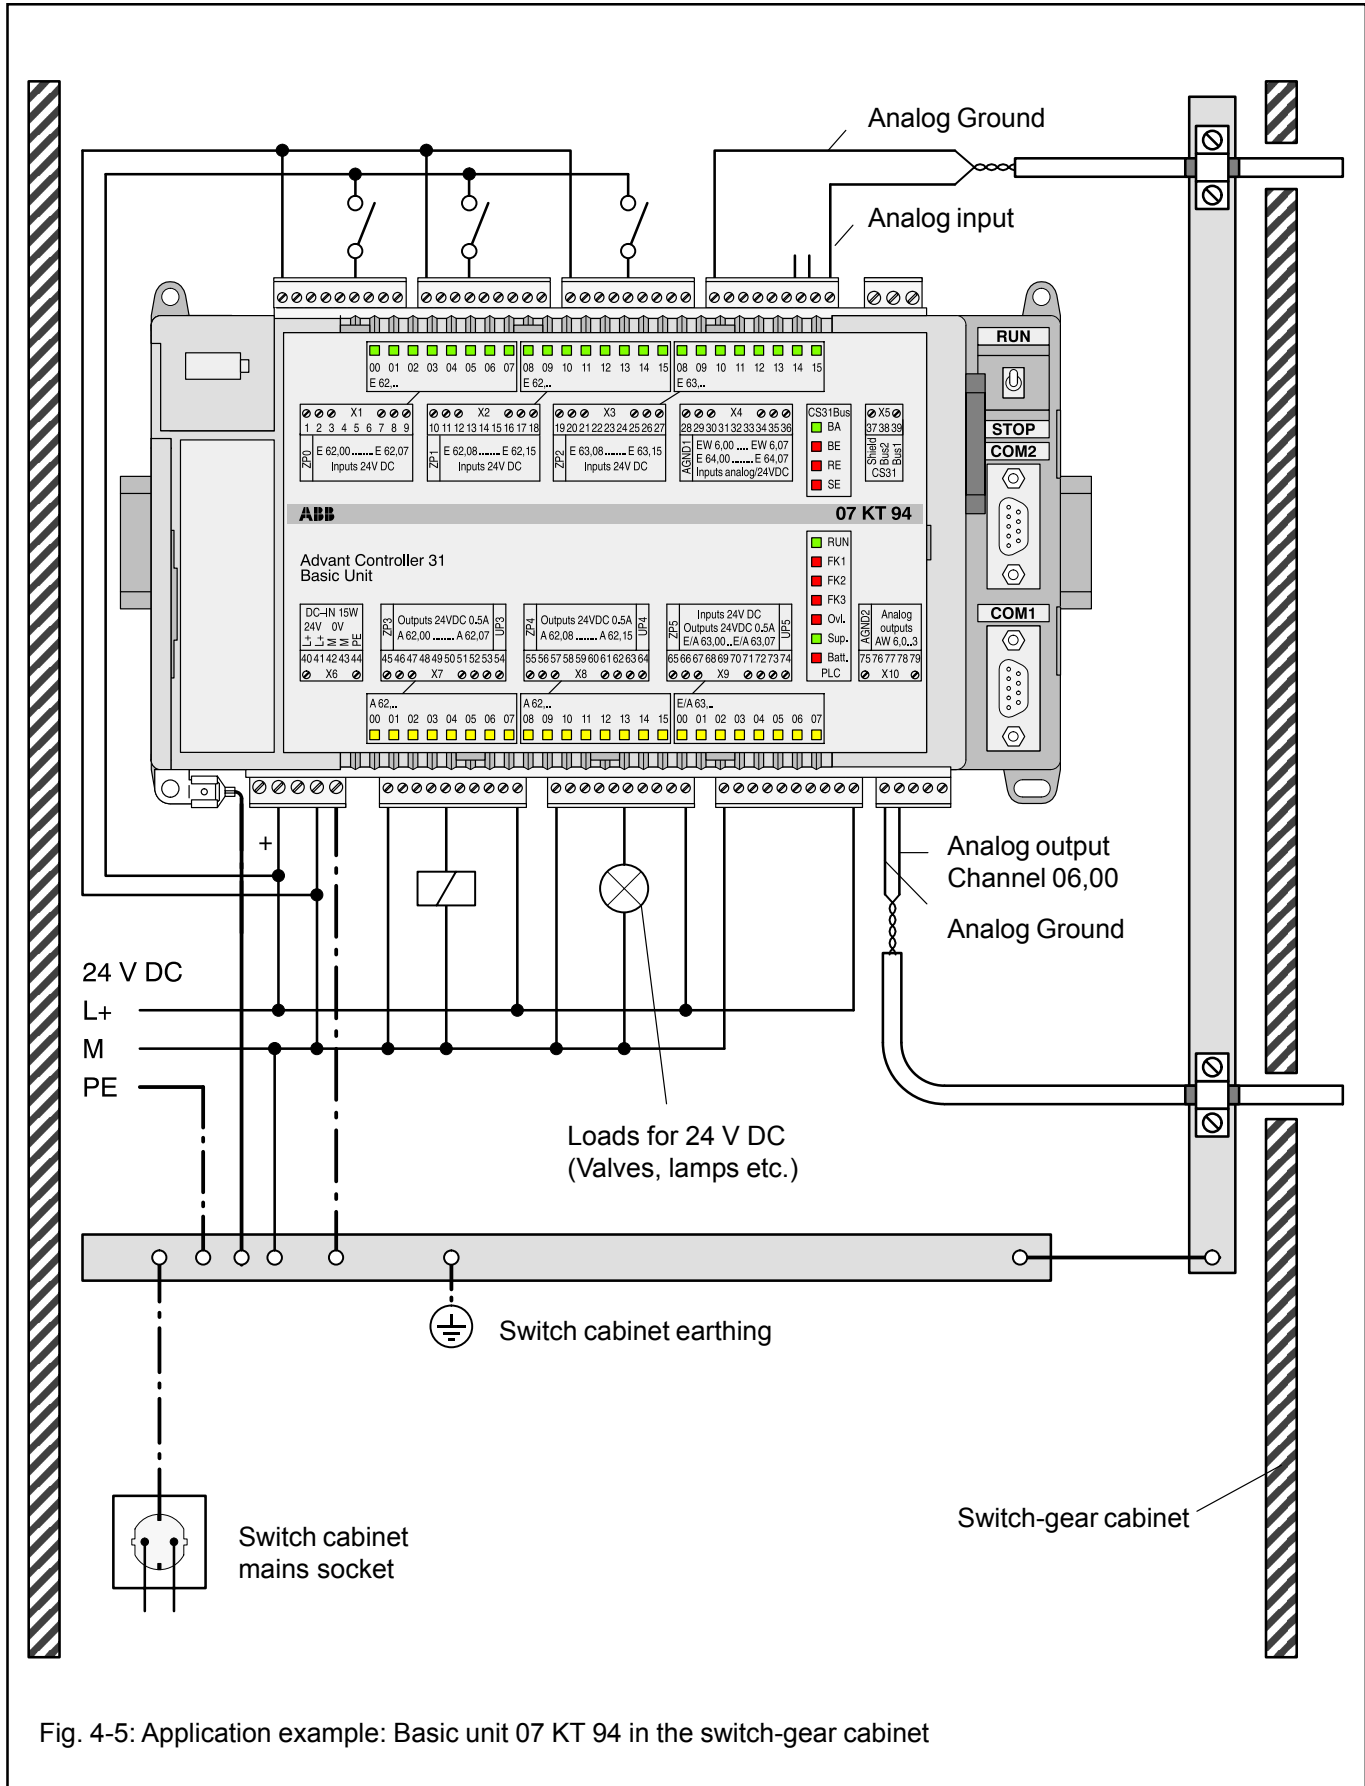

Fig. 4-5: Application example: Basic unit 07 KT 94 in the switch-gear cabinet
- Analog signals are conducted in shielded cables (see Fig. 4-5).